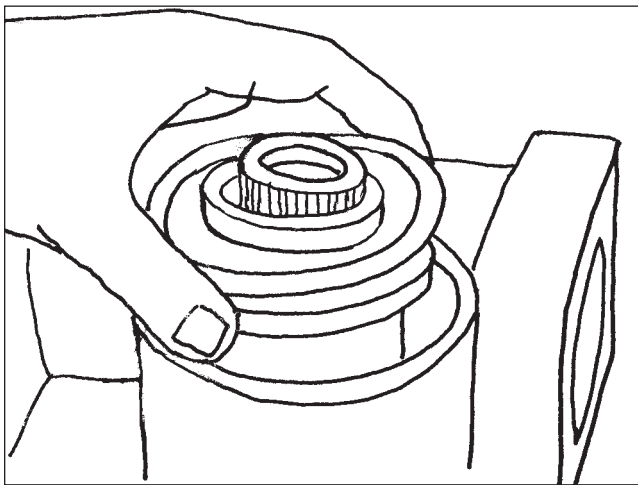

Figure 90
7. Using a soft hammer, tap on the end of the sector shaft to loosen the cover (**Figure 90**).